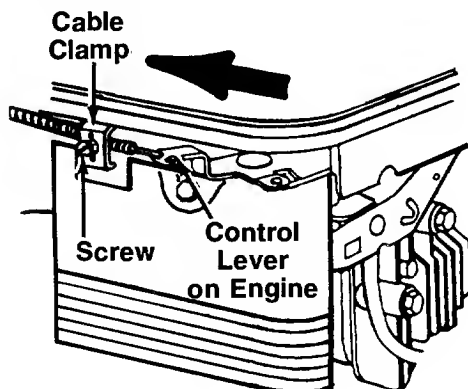

FIGURE 14.—Briggs & Stratton Quantum Engines
1. Remove the screw shown in figure 14. Remove the cable clamp from the cable.